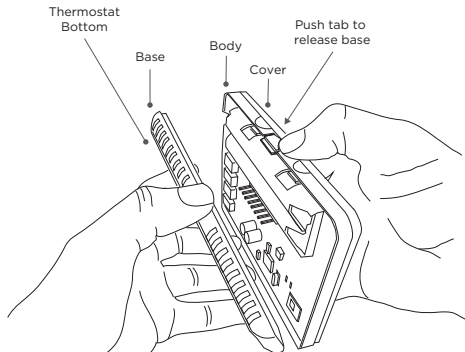

Figure 3: Removing the Base
1. Remove the cover and body from the thermostat base as shown in Figure 3.